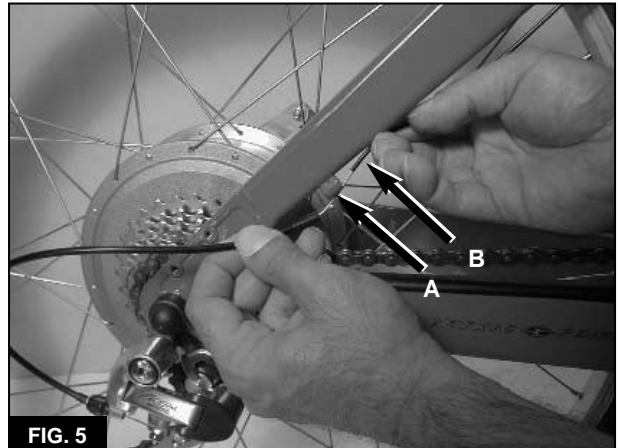

FIG. 5
7. Release the inner wire from the two housing stops on the right seat stay (**A**, **Figure 5**).
8. Slide the tube (**B**, **Figure 5**) that sits between the two housing stops off the inner wire.